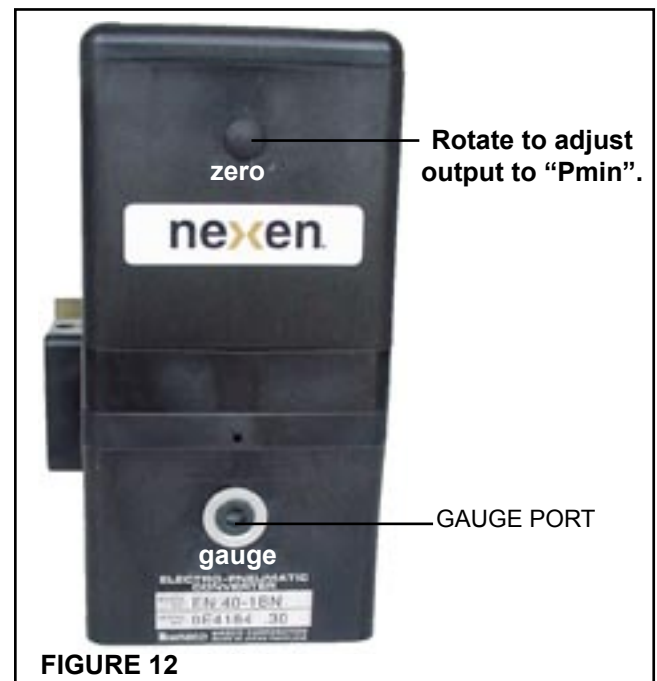

FIGURE 12
4. Using a screwdriver, adjust "EN40" output to Pmin (rotate clockwise to increase, counter clockwise to decrease) (See Figure 12).